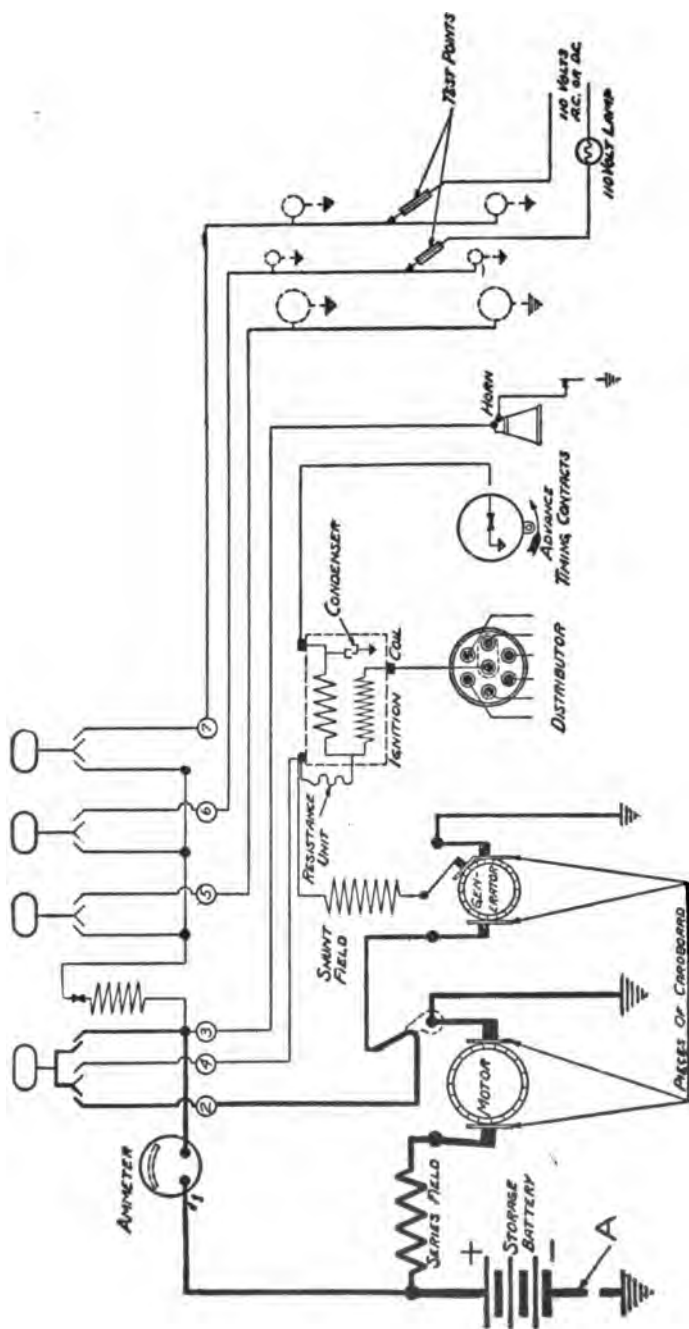

Fig. 259. Wiring Diagram Showing Method of Using Lamp-Testing Set for Locating Short-Circuits
**Locating Shorts.** To test for short-circuits between wires that are normally insulated from each other, place one test point on the end of one wire and the second test point on the end of the other, as shown in Fig. 259. If the lamp lights, it will indicate a short-circuit between these two wires, which can then be carefully inspected to locate the exact position of the fault. Failure of the lamp to light when the test is made will indicate that the wires in question are in good condition; the tests can then be applied to other parts of the circuits which should be insulated from each other.